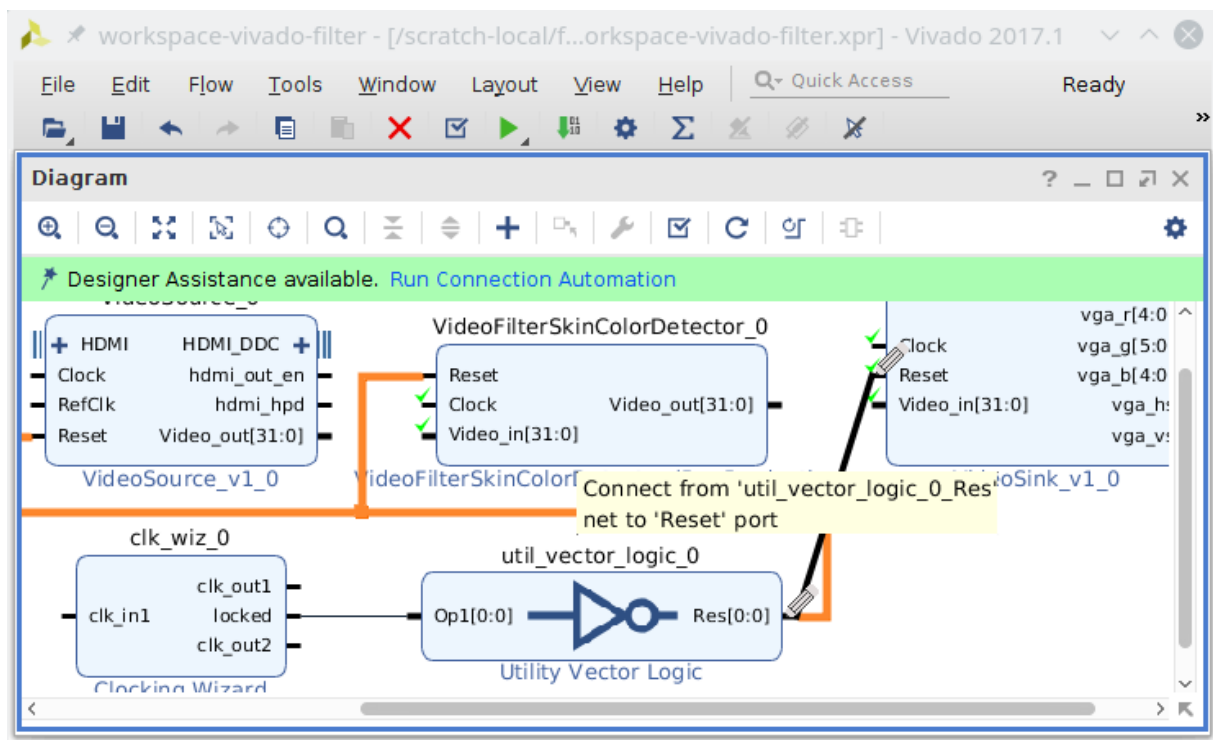

Figure 43: Connect the reset derived by inverting the locked output port of the “Clocking Wizard” to the Reset input ports of the IPBs
- q) The locked output port of the “Clocking Wizard” will be low until the output clocks on clk_out1 and clk_out2 become stable whereas it will turn high. Thus, we have to invert the locked signal to derive an active high reset signal. Hence, connect the reset derived by inverting the locked output port of the “Clocking Wizard” to the Reset input ports of the IPBs as shown in Figure 43. Connections can be made by clicking and dragging an output port of an IPB to an input port of an IPB. Then, connect clk_out1 to the RefClk input port of the VideoSource IPB as well as clk_out2 to the Clock input ports of the other IPBs.